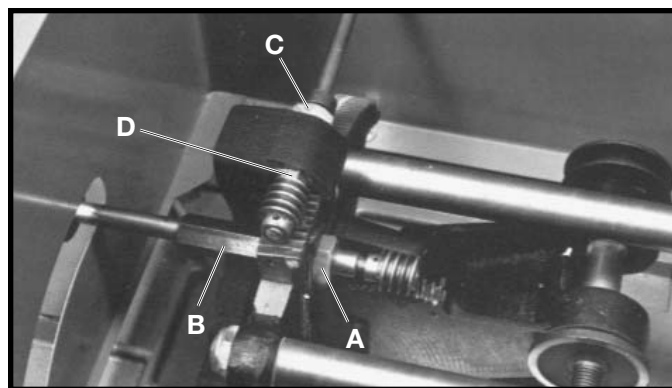

Fig. 61
2. **Adjusting blade raising mechanism** - Loosen locknut (A) Fig. 61, and turn eccentric sleeve (B) until all play is removed in mechanism, then tighten locknut (A).
3. **Adjusting blade tilting mechanism** - Loosen locknut (C) Fig. 61, and turn eccentric (D) until all play is removed in mechanism, then tighten locknut (C).